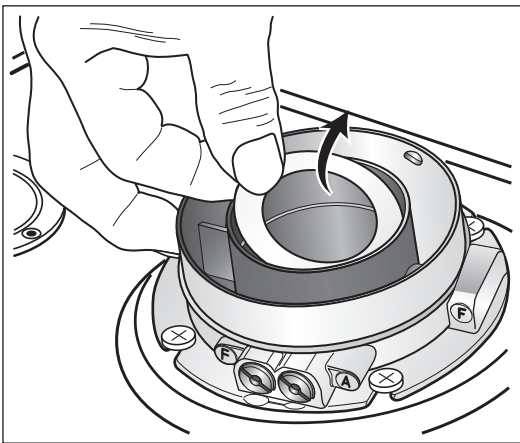

FIG 2.11
IF THE FLUE IS LONGER THAN 1 METRE, REMOVE THE RESTRICTOR (FIG. 2.11). IF THE FLUE IS BETWEEN 0-1 METRE THE RESTRICTOR REMAINS FITTED. SEE TABLE 2.1 (PAGE 17).
**IF THE FLUE IS LONGER THAN 1 METRE, REMOVE THE RESTRICTOR (FIG. 2.11). IF THE FLUE IS BETWEEN 0-1 METRE THE RESTRICTOR REMAINS FITTED. SEE TABLE 2.1 (PAGE 17).**